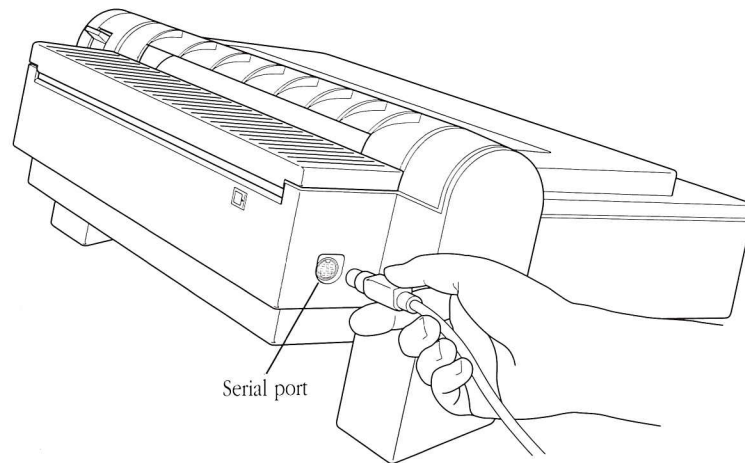

Figure A-2 Connecting the printer cable to the ImageWriter II
1. Plug the 8-pin mini-circular connector on the printer cable into the ImageWriter II's serial port. The Apple icon should face up. (See Figure A-2.)